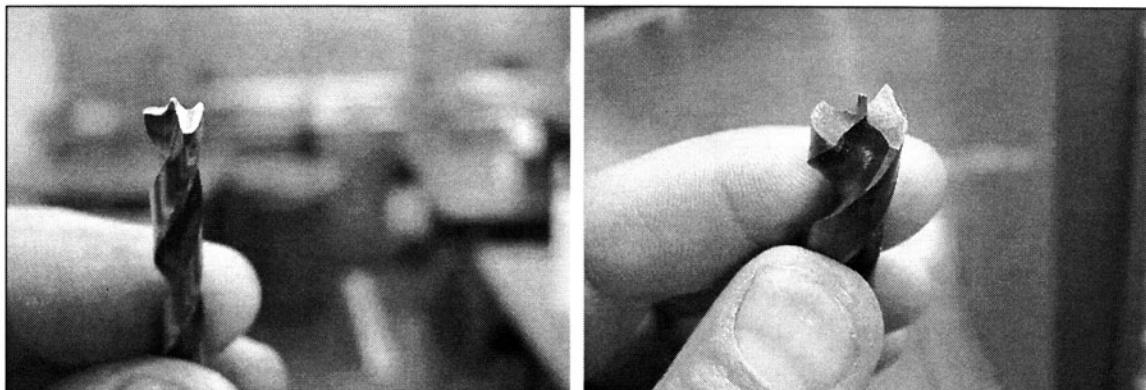

FIGURE 7-11 A sheet metal drill will cut a cleaner hole through sheet metal than a standard drill bit.
12. *Use sheet metal drills to drill sheet metal. (See Fig. 7-11)*